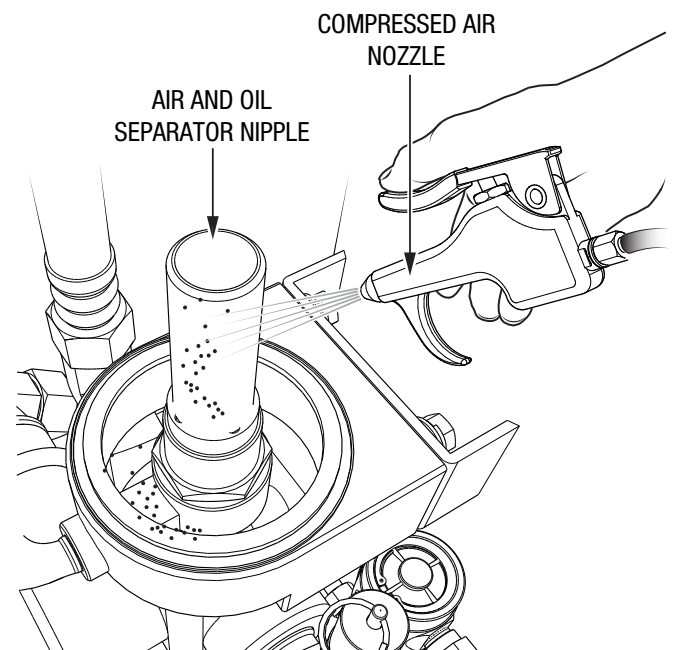

Figure 26. Air and Oil Separator Nipple Inspection and Cleaning
2. Inspect the air and oil separator nipple (Figure 26) for rust or other contaminants, and clean if necessary. If the nipple's oil passage holes are blocked, use compressed air to clear them.